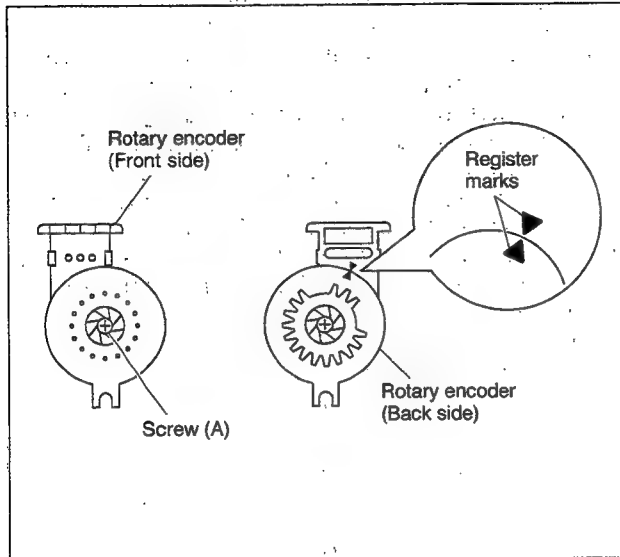

Fig. 2-2-18
- (1) Remove one screw (A) and remove the rotary encoder by pulling it up.
- (2) When installing the rotary encoder, bring the register marks into alignment as indicated in Fig.2-2-18.